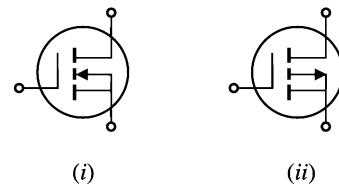

Fig. 19.57
**Schematic Symbols.** Fig. 19.57 (i) shows the schematic symbols for *n*-channel *E-MOSFET* whereas Fig. 19.57 (ii) shows the schematic symbol for *p*-channel *E-MOSFET*. When  $V_{GS} = 0$ , the *E-MOSFET* is *OFF* because there is no conducting channel between source and drain. The broken channel line in the symbols indicates the normally *OFF* condition.